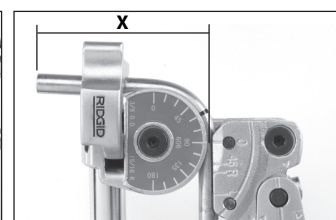
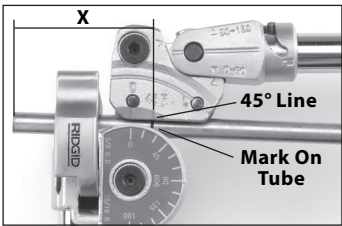

Figure 7 – After
Figure 10 – Before
• With the mark on the tube appropriately aligned, move the Carriage so that the “0” Line aligns with the 90 degree line on the Form. (See Figures 7 and 9 – After).
- Mark the tube at the desired distance (X) from the feature (end of tube, bend, etc.). The center of the arc segment will be this distance from the feature.
- Align the mark on the tube with the 45° line on the Carriage (see Figure 10).